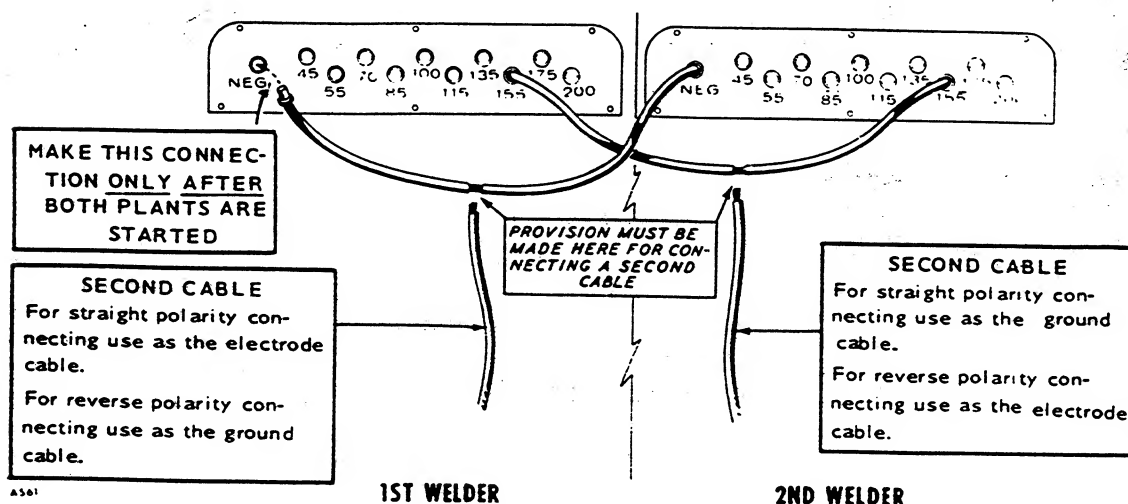

FIGURE 5. CONNECTIONS FOR WELDING IN PARALLEL
Two welders can be connected in parallel if the welding amperage requirements are greater than those provided by one welder (see Figure 5).
- a. Connect a cable between the preselected *IDENTICAL* current jack receptacles of the welders. This cable (Figure 5) must have some means of attaching a second cable by splicing, clamping, etc., which will ensure a tight connection.